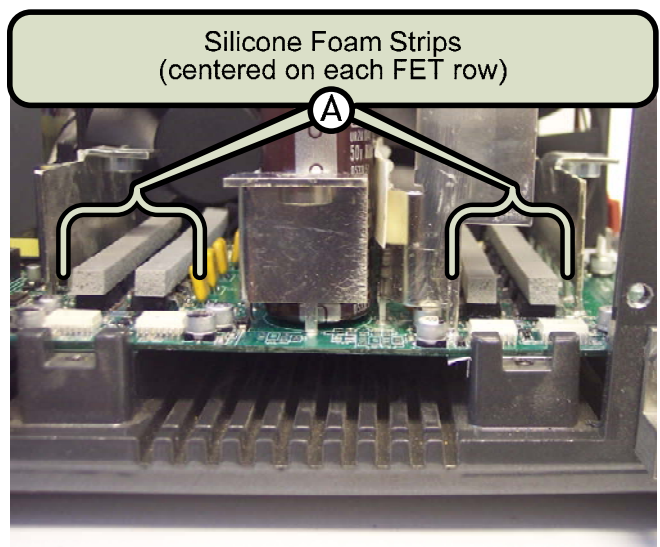

Figure 5, Silicone Foam on FET rows
3.2.4 Place a new silicone foam strip (shiny side up and down) in the center of each row of FETs, see figure 5.